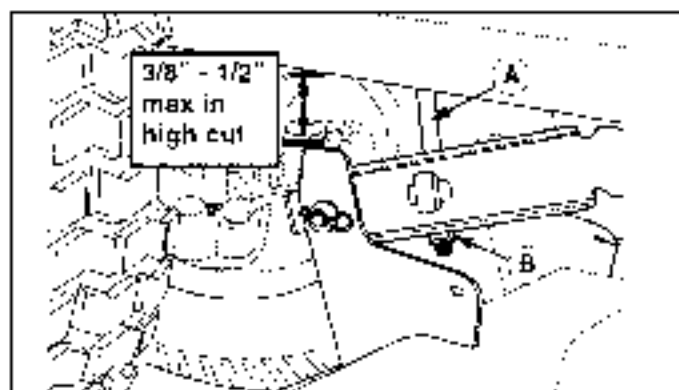

Figure 26. Leveling the Mower Side-to-Side
5. Turn the locknut (B, Figure 26) to raise or lower that side of the mower.
*NOTE:* The maximum the mower can be adjusted in high cut is 3/8" to 1/2" between the trans and mower up-stop (see Figure 26).